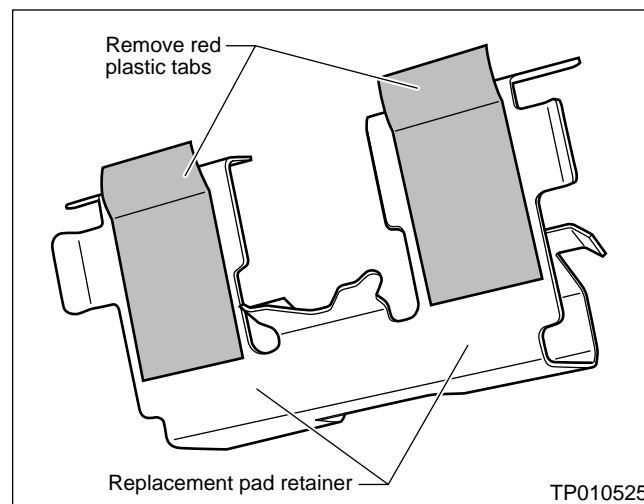

Figure 4
- First**, remove the red plastic tabs from one of the replacement pad retainers in the SPR-RET Kit (see Figure 4).